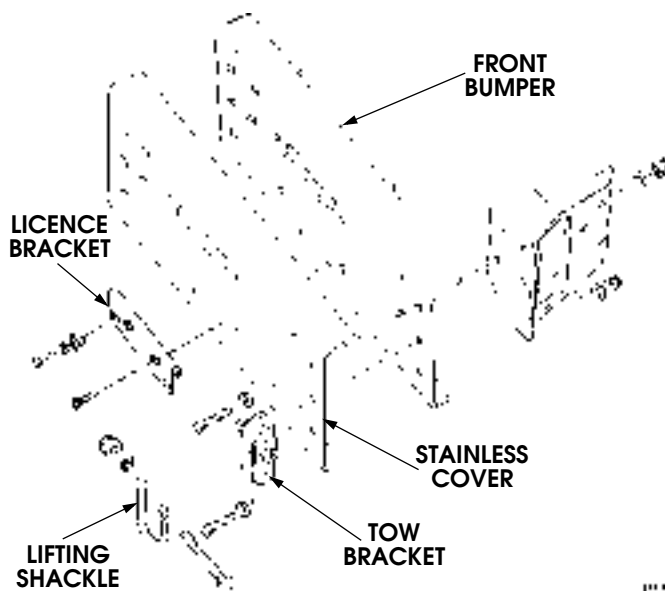

Figure 13-83: SS Front Bumper Cover W/Winch
1. Remove two bolts and the licence plate mount bracket (See Figure 13-83).